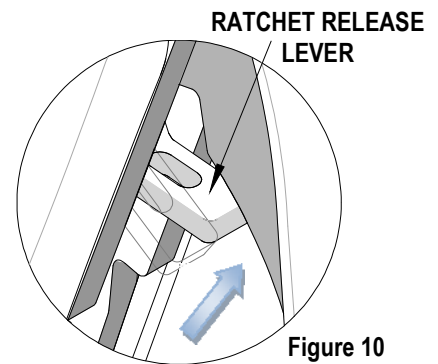

Figure 10
Should this tool ever become stuck or jammed in a partially closed position, **Do Not force the handles open or closed**. The tool will open easily by pressing up on the ratchet release lever in the movable handle. See Figure 10.
1. Hold the hand tool in the palm of your hand as shown in Figure 10. Using your index finger, squeeze the link toward the top of the hand tool frame. This will release the preload adjustment wheel.
2. Rotate the setting wheel counterclockwise (CCW) to increase handle force. The numbers will display higher. To decrease handle force, rotate the setting wheel clockwise (CW).